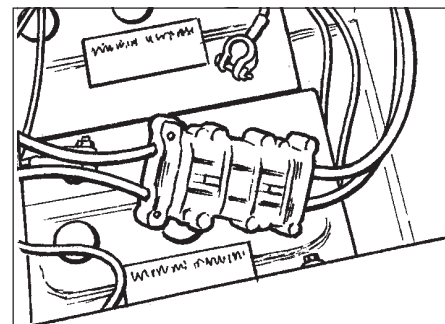

Figure 8
6. Join the connector from the battery pack to the machine connector (see figure 8).